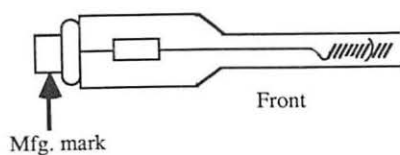

FIGURE 2-21
1. Holding the bulb by the end with the manufacturer's name (see Figure 2-21), insert it into the roller tube. Make sure that the leading end is seated on the small copper electrode at the far end of the assembly.